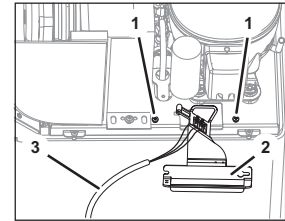

Fig. 67
1. Remove the two bolts (Fig. 67/1).
2. Slide the ice build-up probe mount (Fig. 67/2) out of the receptacle.
3. Pull the ice build-up probe mount (Fig. 67/2) out of the unit.
4. Remove the ice build-up probe (Fig. 67/3) from the ice build-up probe mount (Fig. 67/2).
5. Attach the new ice build-up probe (Fig. 67/3) in the ice build-up probe mount (Fig. 67/2) using cable ties.
6. Slide the ice build-up probe mount (Fig. 67/2) into the unit.
7. Slide the ice build-up probe mount (Fig. 67/2) into the receptacle.
8. Attach the ice build-up probe mount (Fig. 67/2) using the two bolts (Fig. 67/1).